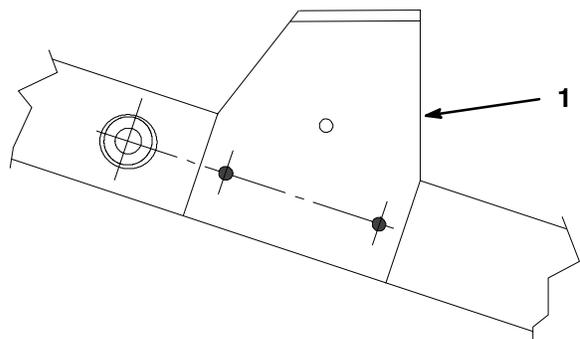

Figure 5
2. Position light bracket on frame, aligning front of bracket with drilled hole in frame (Fig. 5). Using bracket as a template, locate, mark, and drill another .281" diameter hole through one wall of frame tube.